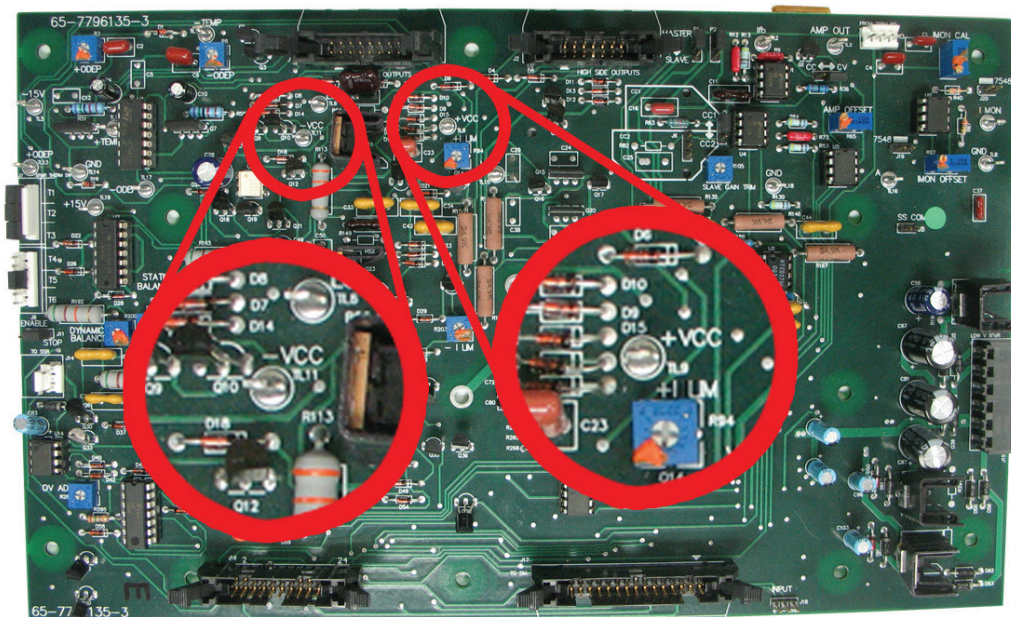

Figure 9.1 – +Vcc and –Vcc Point Locations
1. To perform a Visual Inspection, first turn the Breaker/Switch to the Off (O) position.
3. Wait three to five minutes for the Power Supply capacitors to discharge. You can verify the capacitor discharge by connecting a voltmeter across +Vcc and –Vcc test points on the main board (see **Figure 9.1**). Verify a reading of less than 50 volts before proceeding.